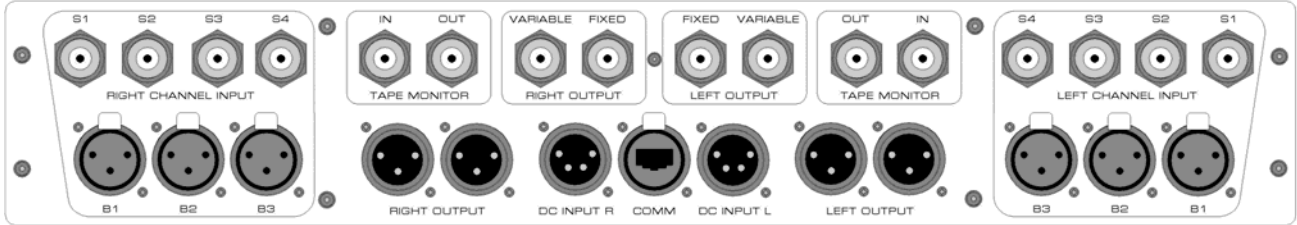

Figure 3: Rear panel of MOON P-8 Preamp
The rear panel of the **MOON P-8** dual-mono preamp will look similar to Figure 3 (above). There are two rows of connectors; the top row contains single-ended RCA inputs/outputs and the bottom row contains balanced XLR inputs/outputs, as well as the three input connections from the separate digital controller chassis. There are three (3) pairs of balanced inputs on XLR connectors (B1, B2, B3) and four pairs (4) of single-ended inputs on RCA connectors (S1, S2, S3, S4). As a result of this preamp's dual-mono design, the left channel inputs are located on the left side and the right channel inputs are located on the right side. This preamp is also equipped with a single-ended tape monitor loop; the input and output connectors for each channel are located on their respective sides of the rear panel. The **P-8** has two (2) pairs each of balanced outputs and single-ended outputs. Both balanced outputs are variable; One single-ended output is variable and the other one is fixed, meaning that it bypasses the volume control. Don't hesitate to use high quality interconnect cables. Poor quality interconnect cables can degrade the overall sonic performance of your system.